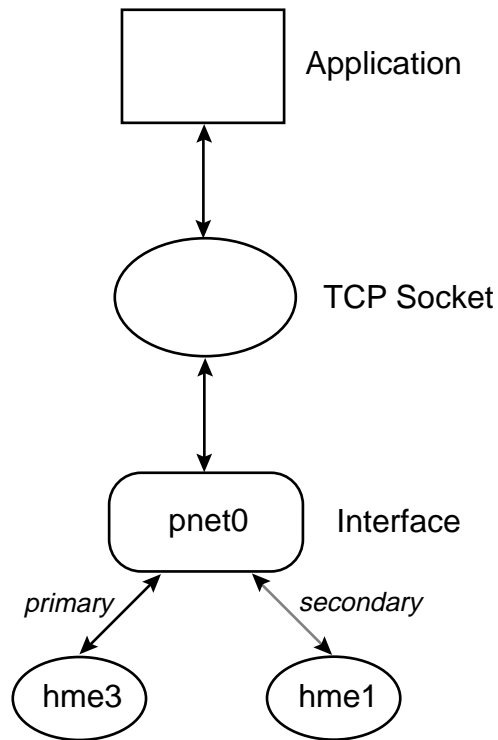

FIGURE 1-1 `pnet` Fault-Tolerant Interface
- FIGURE 1-1 `pnet` Fault-Tolerant Interface 2
The `pnet` interface can be considered as an Ethernet device that is available for use, and which multiplexes two Ethernet devices below it. FIGURE 1-1 shows one possible configuration, with an application using a TCP socket bound to a `pnet` interface consisting of two underlying devices.